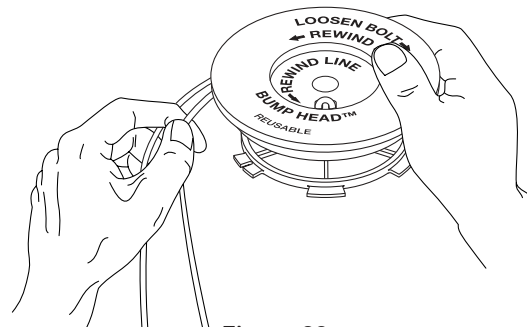

Figure 32
7. Wind the lines in tight even layers onto the reel. See Figure 32. Wind the line in the direction indicated on the inner reel. Place your index finger between the two lines to stop the lines from overlapping. Do not overlap the ends of the line. Proceed to step 11.